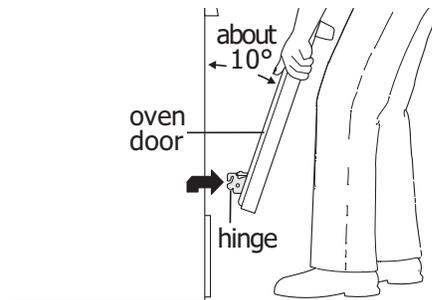
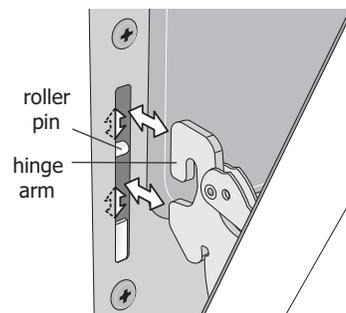

Figure 25: Holding door for removal
Figure 26: Replacement and location of hinge arm and roller pin
3. Firmly grasp both sides of oven door along the door sides. Do not use the oven door handle (See Figure 25).
5. Lift the oven door hinge arms over the roller pins located on each side of the oven frame (See Figure 25).
1. Firmly grasp both sides of oven door along the door sides. Do not use the oven door handle (See Figure 25).
2. Holding the oven door at the same angle as the removal position, seat the hook of the hinge arm over the roller pins located on each side of the oven door frame (See Figure 25 and Figure 26). The hook of the hinge arms must be fully seated onto the roller pins.